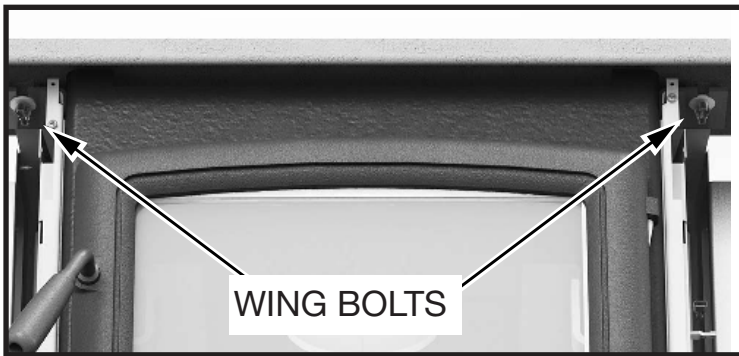

Figure 13: Wing bolts.
2. Remove the decorative top by loosening the two wing bolts located underneath. Pull the top towards you to slide it out of its brackets (Figure 13).